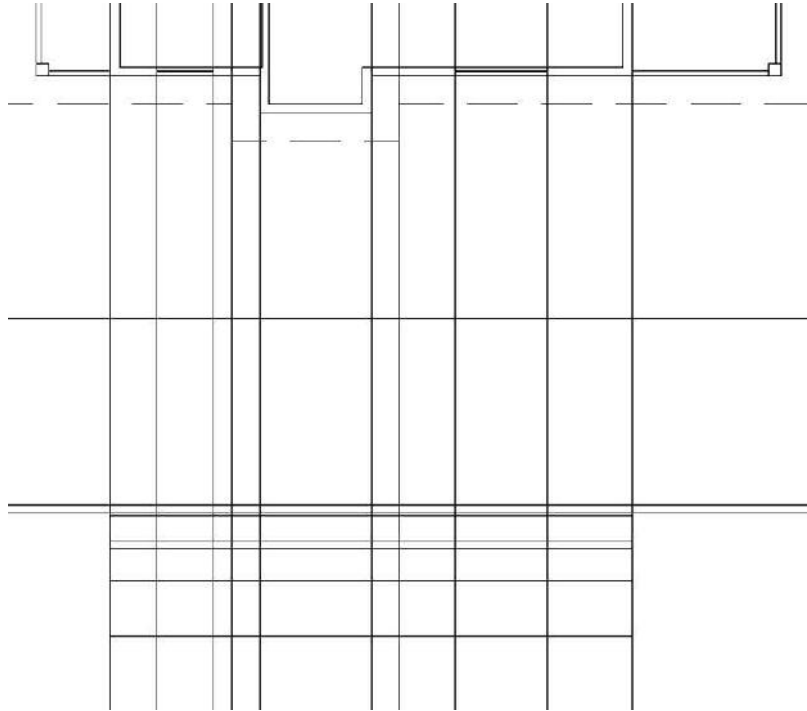

FIGURE 10.10: The elevation after extending the rooflines
3. Click once on each end of the top four horizontal lines: the ridgeline, the top and bottom of the roof covering, and the bottom of the soffit (see Figure 10.10).